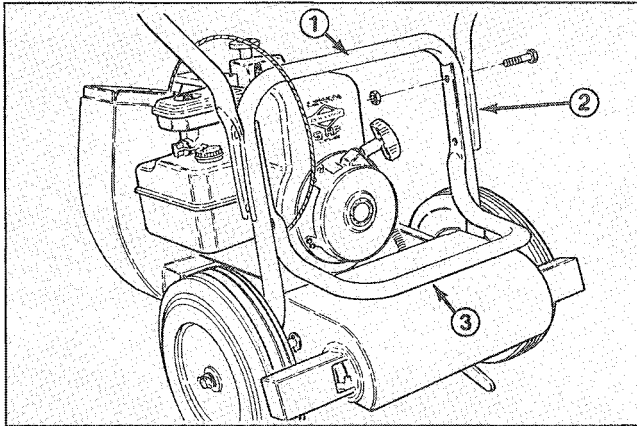

Figure 1
1. Attach upper handle to lower handle with four capscrews and locknuts (Fig. 1). On self propelled models, secure bag support to inside of lower handle while mounting handle.